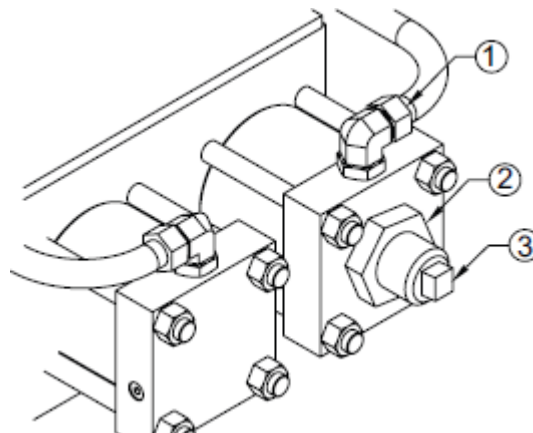

Figure 35: Stroke Adjustment
Actuator stroke adjusters prevent the actuator from over-traveling during a fail-safe condition. If the driven device does not limit over-rotation or over-travel, stroke adjusters can be utilized for this purpose. These stroke adjusters can reduce cylinder rotation by 0–5 degrees. See Figure 35 for details.
4. Locate the hydraulic fitting (1) connected directly to the stroke adjuster cylinder cap as shown in Figure 35. Loosen this fitting to allow oil to escape during this adjustment process. Ensure to capture any oil that escapes.
5. Loosen the jam nut (2), shown in Figure 35, by turning counterclockwise. Back off this jam nut 4 to 5 turns and move the countersunk washer away from the thread seal and against the repositioned jam nut.
8. The actuator stroke adjustment can now be made using the threaded adjustment rod (3), shown in Figure 35.